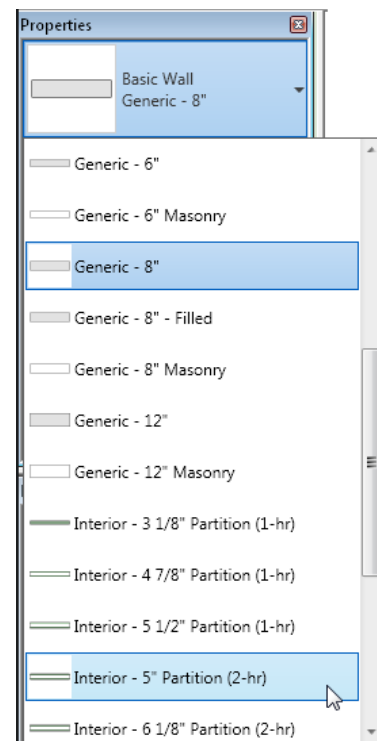

Figure 3-55 Selecting the **Basic Wall: Interior - 5" Partition (2-hr)** wall type
1. On invoking the **Wall: Architectural** tool, the wall instance parameters are displayed in the **Properties** palette. In this palette, select the required option from the **Type Selector** drop-down list, as shown in Figure 3-55.